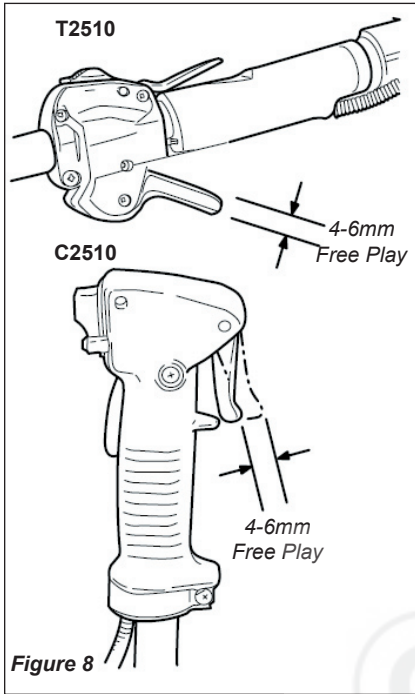

Figure 8
The throttle lever free play should be approximately 4-6 mm. See Figure 8. Make sure that the throttle lever operates smoothly without binding. If it becomes necessary to adjust the lever free play, follow the procedures and illustrations that follow.
3. Turn the cable adjuster in or out as required to obtain proper free play (4-6mm). See Figure 8.